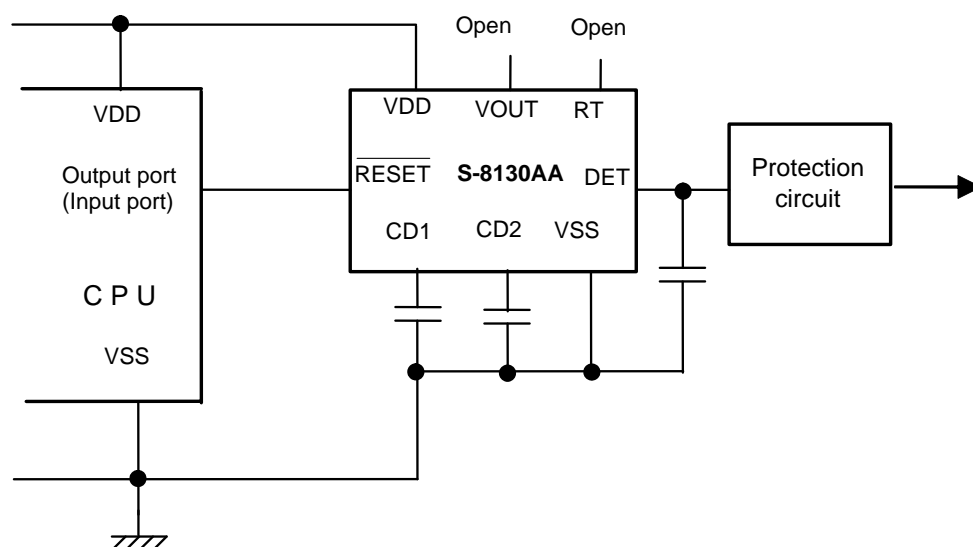

Figure 4
- (1) Since the S-8130AA has a voltage detector inside, control for the  $\overline{\text{RESET}}$  pin is not necessary to activate the circuit as seen in **Figure 4**. In this case the  $\overline{\text{RESET}}$  pin should be open.
- (2) A capacitor of around 1  $\mu\text{F}$  should be connected to the DET pin to prevent malfunction caused by a noise due to the power on.
- (3) Nothing should be connected to the VOUT pin and the RT pin. These pins should be left open.
- (4) Do not apply an electrostatic discharge to this IC that exceeds the performance ratings of the built-in electrostatic protection circuit.